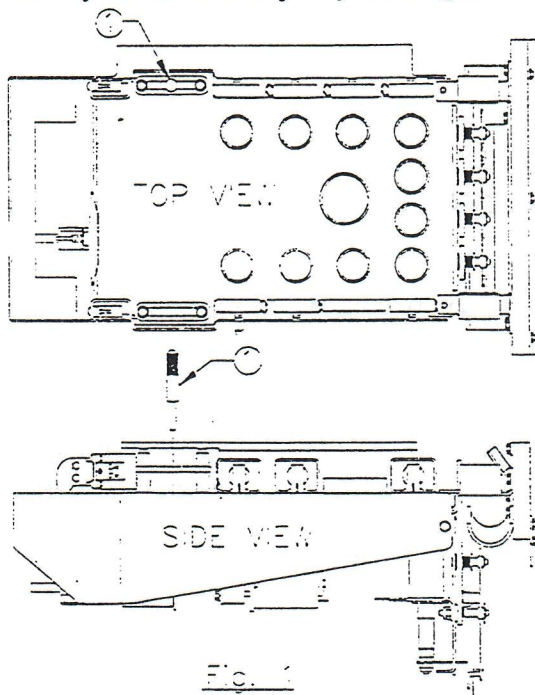

Fig. 1
1. Unscrew thumb screw (Item 1) from the mini playfield. (See Fig.1) This may be tight the first time it is removed. A straight blade screwdriver may be necessary to remove the thumb screw. Subsequent removals and insertions may be done with just your fingers.